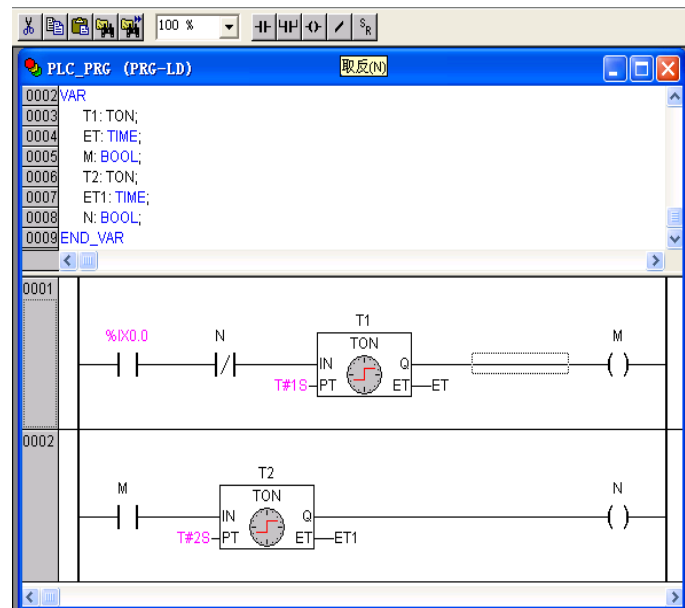

Figure 3-6-12 Programming Step (12)
- Enter “N” in the field “???”, and click “Negate” on the tool bar, as shown in figure 3-6-12.